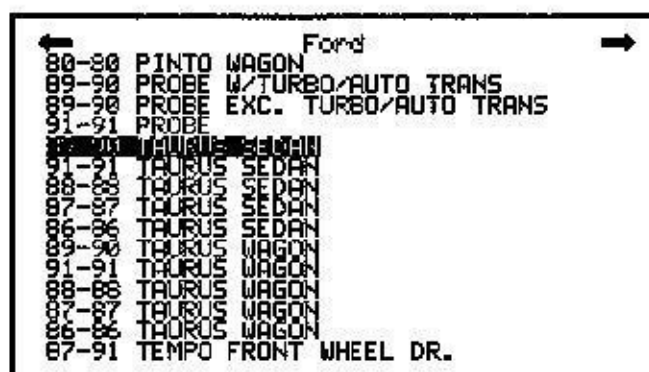

Figure 2-8
4. Press ENTER to enter selection. The *Models Menu* will appear in display (see Figure 2-8).